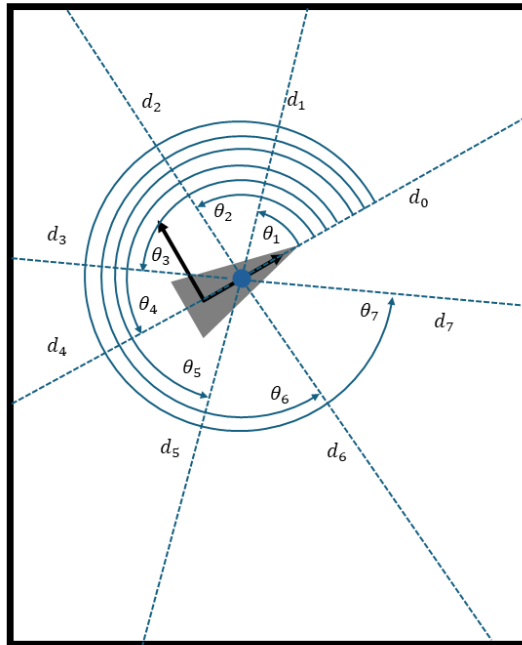

Figure 2: schematization of the lidar measures.
- The lidar returns a vector of distances $d_0 \dots d_{n-1}$ and the correspondent angles $\theta_0 \dots \theta_{n-1}$. Figure 2 reports an example with $n = 8$;